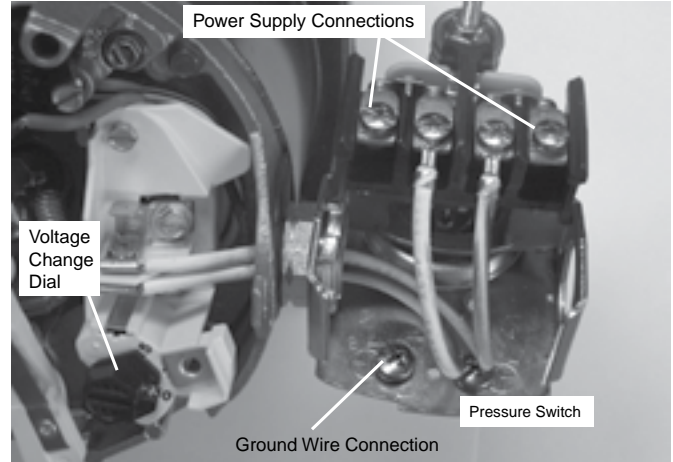

Figure 16: Voltage set to 230 V, Dial Type
3. Attach the incoming power leads to the two outer screws on the pressure switch as shown in Figure 16.
4. Attach the ground wire to the grounding connections as shown in Figure 16.
1. Connect the ground wire first as shown in Figure 16. The ground wire must be a solid copper wire the same or larger gauge as the power supply wires.
4. Connect the power supply wires to the pressure switch as shown in Figure 16.